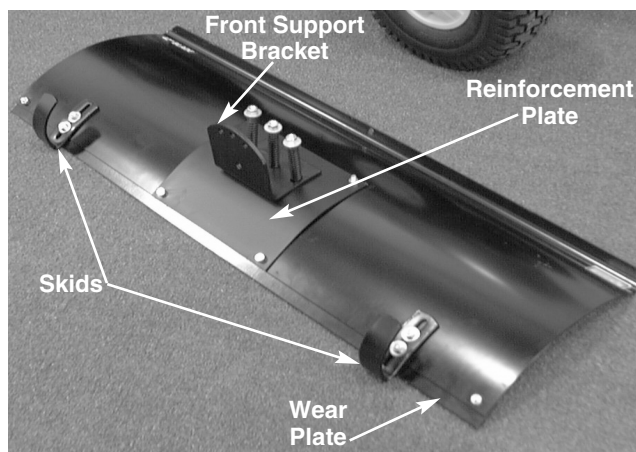

FIGURE 2.
4. Insert carriage bolts through wear plate, blade, and skid. Secure with flat washer and hex lock nuts. See figure 2.
5. Insert hex bolts through blade, reinforcement plate, and front support bracket. Tighten carriage bolts and hex bolts securing wear plate and reinforcement plate using a 1/2" socket. See figure 2.